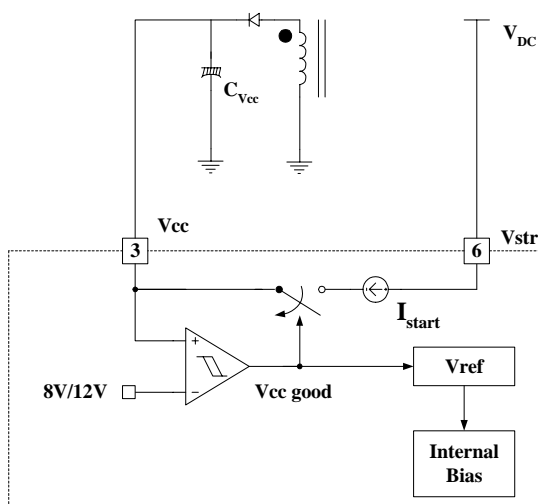

Figure 4. Internal startup circuit
**1. Startup :** In previous generations of Fairchild Power Switches (FPS™) the Vcc pin had an external start-up resistor to the DC input voltage line. In this generation the startup resistor is replaced by an internal high voltage current source. At startup, an internal high voltage current source supplies the internal bias and charges the external capacitor (CVcc) that is connected to the Vcc pin as illustrated in Figure 4. When Vcc reaches 12V, the FSDM07652RB begins switching and the internal high voltage current source is disabled. Then, the FSDM07652RB continues its normal switching operation and the power is supplied from the auxiliary transformer winding unless Vcc goes below the stop voltage of 8V.